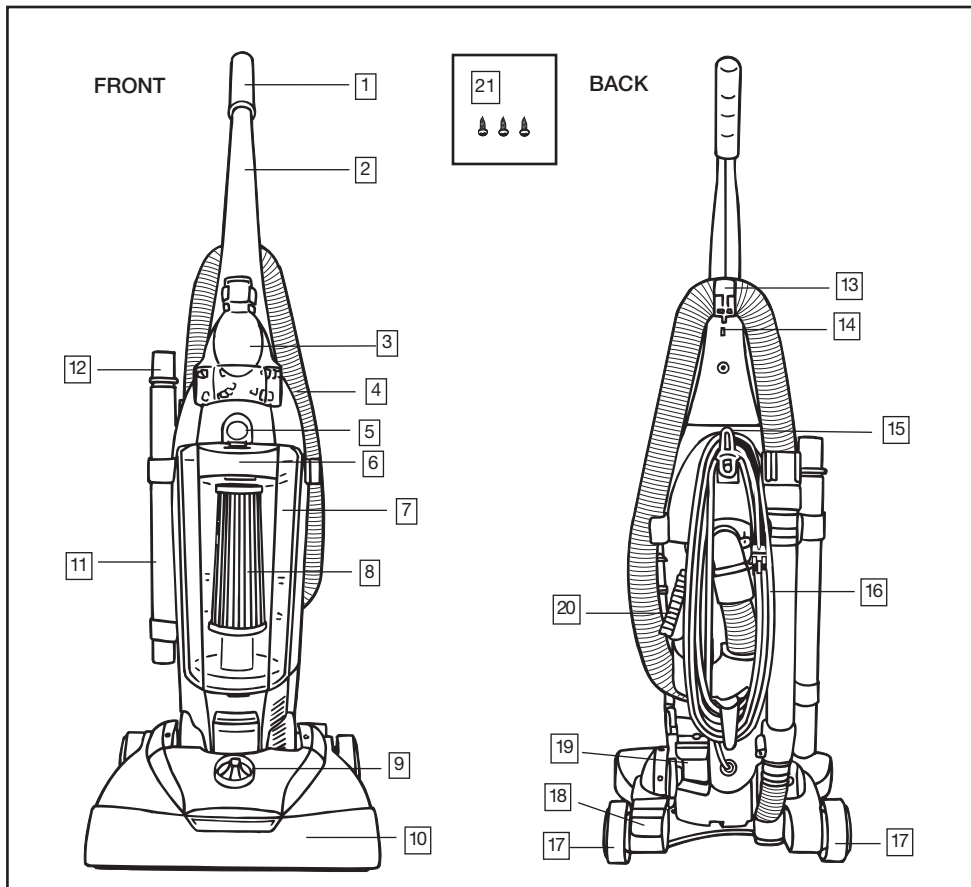
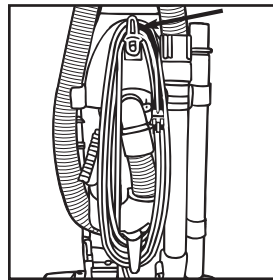

Fig.1/1
Fig.4/1
Turn the quick cord release for easy cord removal. Insert the cord into the cord clip (Fig.1/1 item 14); this will keep the cord out of the way while vacuuming (Fig.4/1).